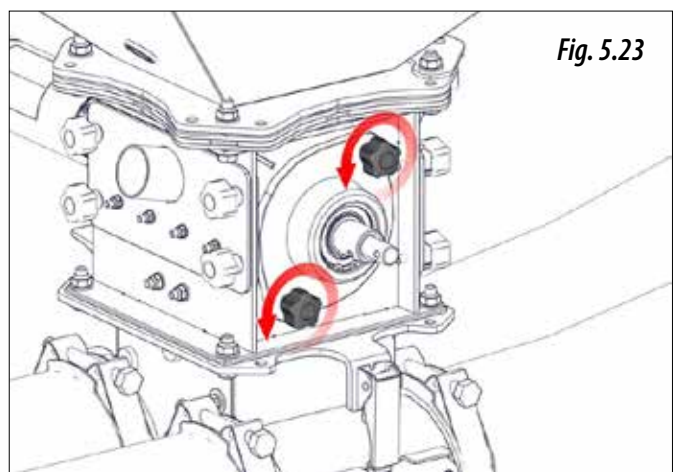

Fig. 5.23
- 6- Remove the knobs (Fig. 5.23).